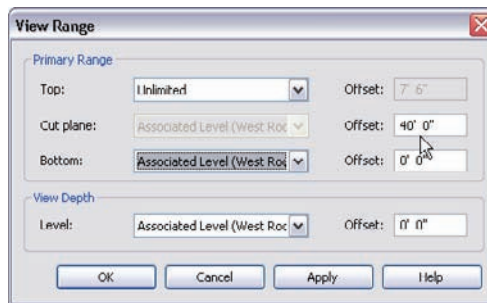

FIGURE 7.43 Setting the view range
4. Set the Cut Plane Offset to 40'-0" (12000mm), as shown in Figure 7.43.